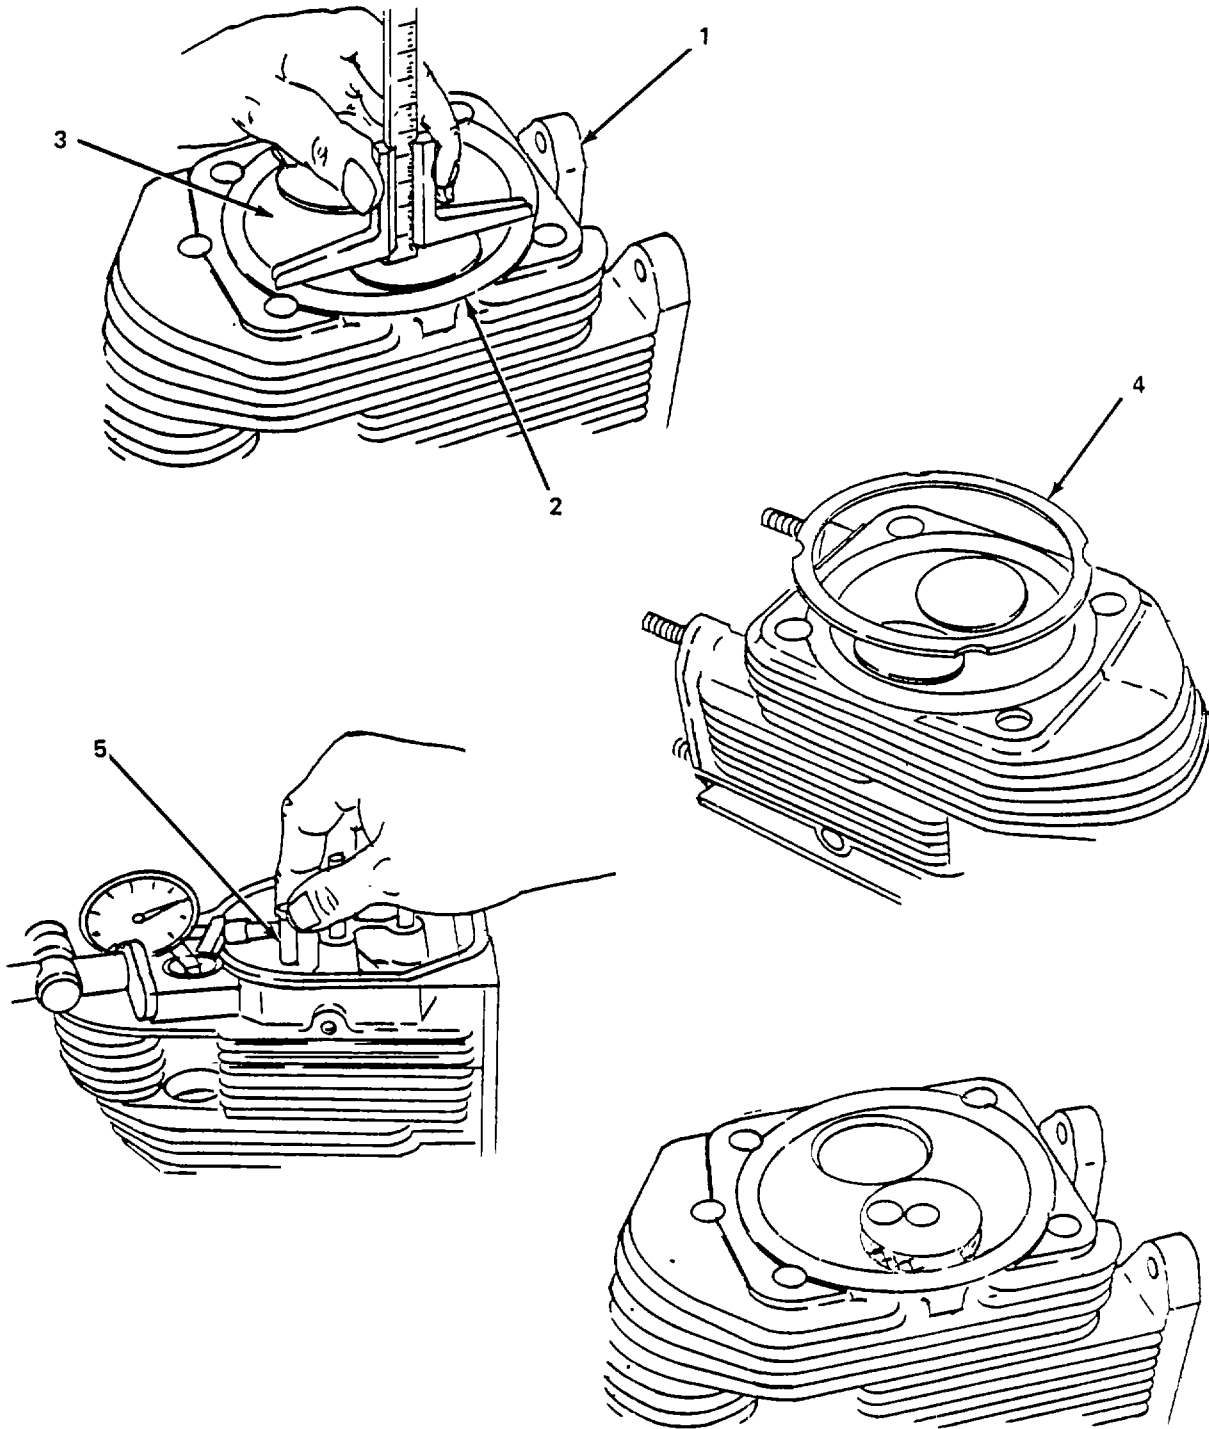

Figure 5-60. Cylinder Head, Repair.
(13) Tighten screwplugs (2) to 59.04 to 66.42 ft. pounds (80 to 90 Nm).
c. Repair. (figure 5-60)
- (1) Clean cylinder head (1) in diesel fuel. Using brush to remove dirt and grime from fins and ridges. Blow dry with compressed air.
- (2) Check the cylinder head seating (2) surface. It must be flat and square. The seating surface (3) can be refaced provided the distance from the seating surface to the sealing surface (3) is not less than .03937 inches (1 mm). If cylinder head seating surface was refaced, the cylinder head adjust procedures (para. a.) must be performed prior to head installation.
- (3) Slight damage to cylinder head seating (2) surface can be removed by grinding cylinder head (1) on cylinder with fine abrasive paste. If cylinder head seating surface was refaced, the cylinder head adjust procedures (para. a.) must be performed prior to head installation.
- (4) If cylinder head seating area is more severely damaged, recut with hand operated plate mill or rework on lathe using turning fixture attached to cylinder head. If cylinder head seating surface was refaced, the cylinder head adjust procedures (para. a.) must be performed prior to head installation.
- (5) Install new valve in valve seat ring and install intermediate ring (4) on cylinder head sealing surface (3).
- (6) Measure distance between valve plate and cylinder head seating surface. Should measure .09999 to .22047 inches (5.08 to 5.6 mm).
- (7) If measurement is within specifications, reface valve seat rings. If measurement is greater than .22047 inches (5.6 mm), replace valve seat rings.
- (8) Reface valve seat rings with drift and holder for inlet valve seat ring and drift and holder for exhaust valve seat ring. When refacing do not exceed .22047 inches (5.6 mm) distance between valve plate and cylinder head sealing surface.
- (9) Reface valve seat rings by installing cylinder head on mandrel, and chucking mandrel with cylinder head on lathe.
- (10) Drill out valve seat rings by fitting drilling device to drilling machine for cutting out rings. Place on cylinder head and insert pilot pin with drilling bushings.